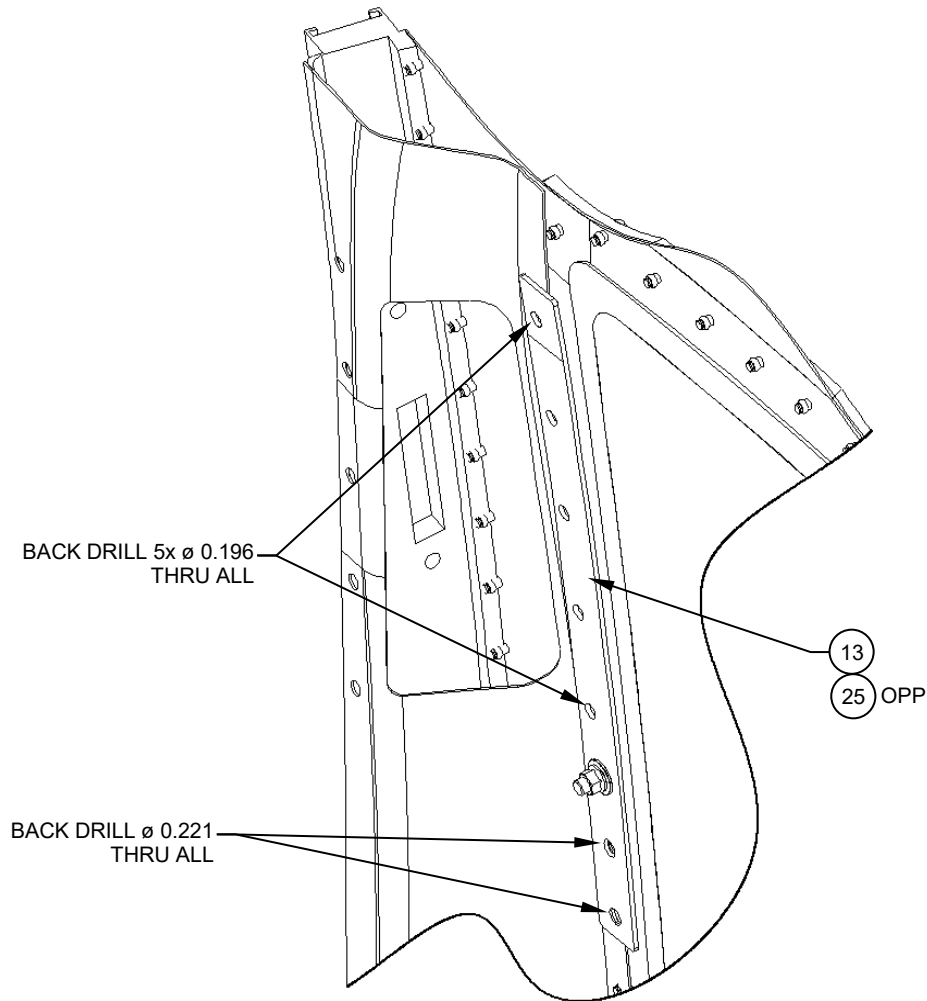

Figure 4
4. Temporarily install the Doubler, Detail (Item 13, 25 OPP), with the appropriate fasteners, ensuring that all holes to be back-drilled have the maximum E.D. possible. Clamp the Doubler, Detail (Item 6, 21 OPP) in place and back-drill with the appropriate drill. Reference Figure 4.